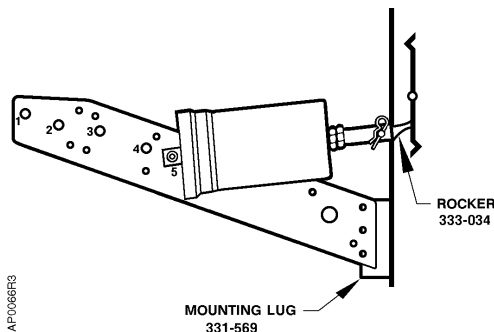

Figure 7. No. 4 Actuator Frame Mounting,
- a. Normally closed damper: attach plate to lug (Figure 7). Place pivot post in Hole 3.